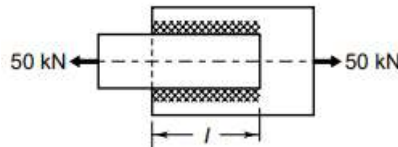

Fig. 3
- 5 a) A steel plate, 100 mm wide and 10 mm thick, is welded to another steel plate by means of double parallel fillet welds as shown in Fig. 3. The plates are subjected to a static tensile force of 50 kN. Determine the required length of the welds if the permissible shear stress in the weld is 94 N/mm^2 . [5]